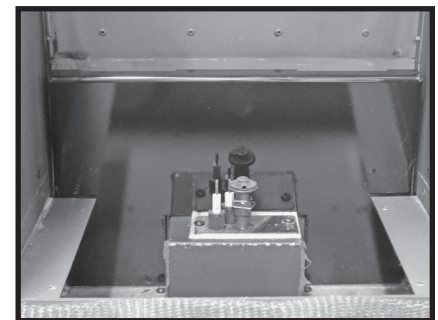

Figure 27: Lower back panel.
4. Remove the lower back panel by lifting it off of the pilot ledge and pull it out of stove (Figure 27).
1. Insert lower back panel so that it is sitting on the ledge at the back of the firebox (Figure 27).